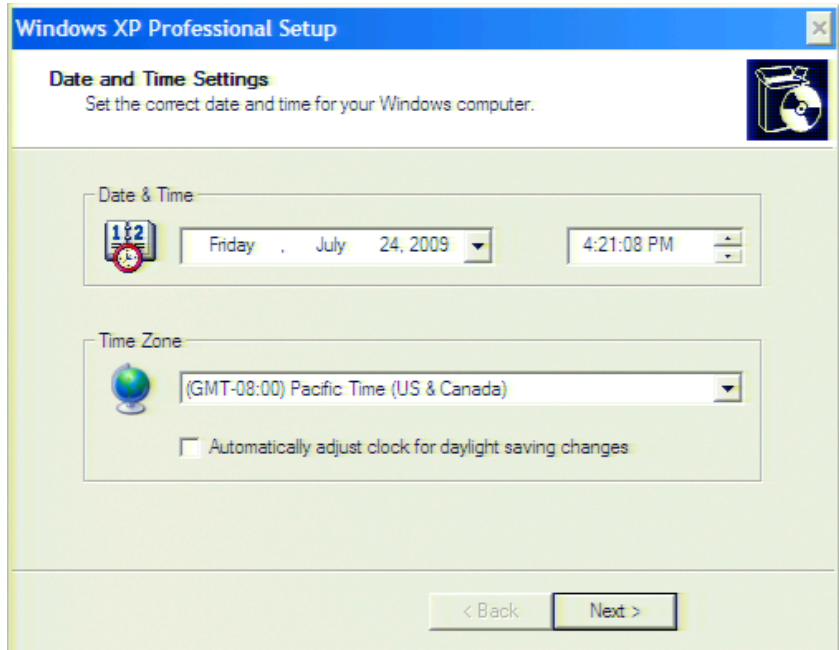

Figure 16 Date and Time Setting dialog box
Step 6. In the next dialog box, set the date and time for your Windows. Then, click the **Next>** button (Figure 16).